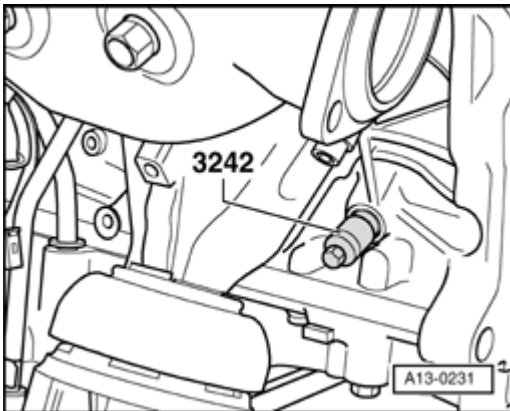

Fig. 167: Installing Crankshaft Holder 3242 In Hole For Removed Locking Bolt
- Install crankshaft holder 3242 --> **Fig. 167**